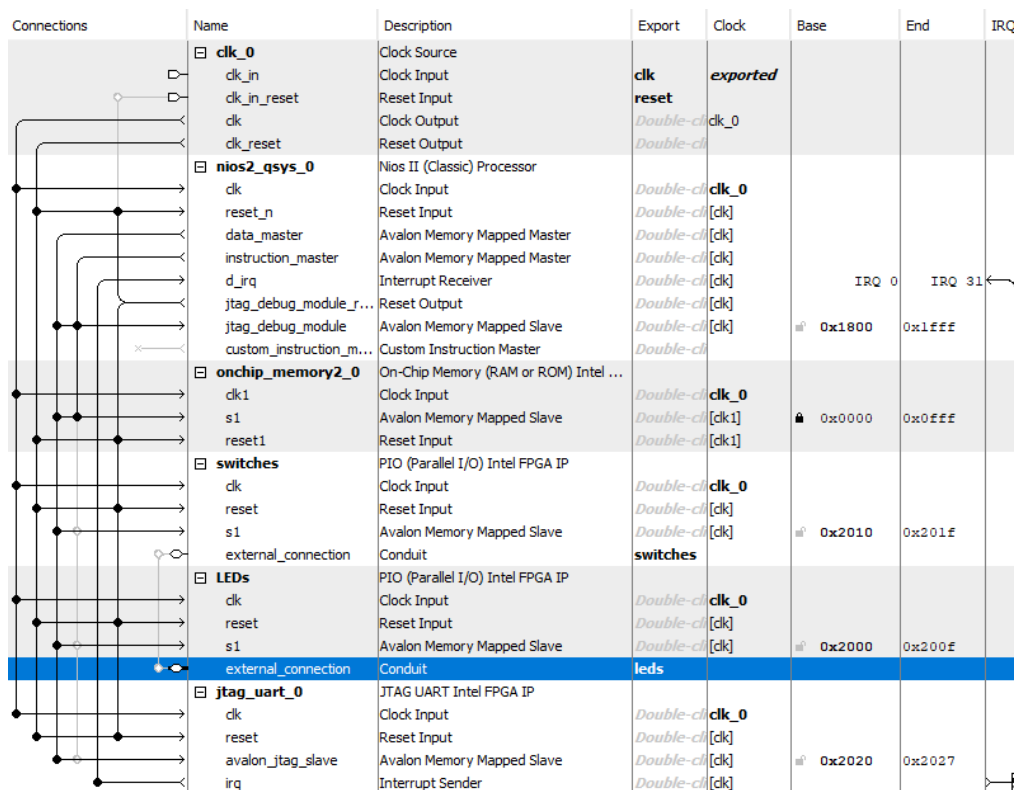

Figure 18. The complete system.
- So far, we have specified all connections inside our *nios_system* circuit. It is also necessary to specify connections to external components, which are switches and LEDs in our case. To accomplish this, double click on Double-click to export (in the Export column of the System Contents tab) for *external_connection* of the switches PIO, and type the name *switches*. Similarly, establish the external connection for the lights, called *leds*. This completes the specification of our *nios_system*, which is depicted in Figure 18.